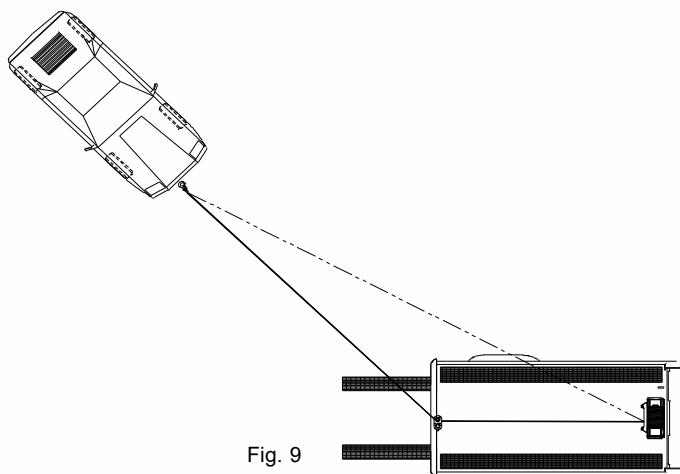

Fig. 9
- 1.8 **AVOID CONTINUOUS PULLS FROM EXTREME ANGLES** as this will cause the rope to pile up at one end of the drum (Fig 9). Always aim to get the rope as straight as possible to the direction of the vehicle.